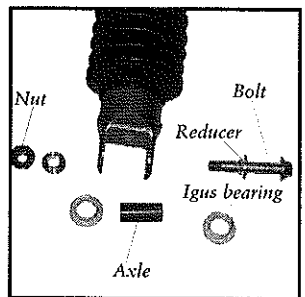

Fig. 33
3. Inspect the Igus bearings from the shock mount (Fig. 33). If they are in good shape, you can leave them. If not, remove them.